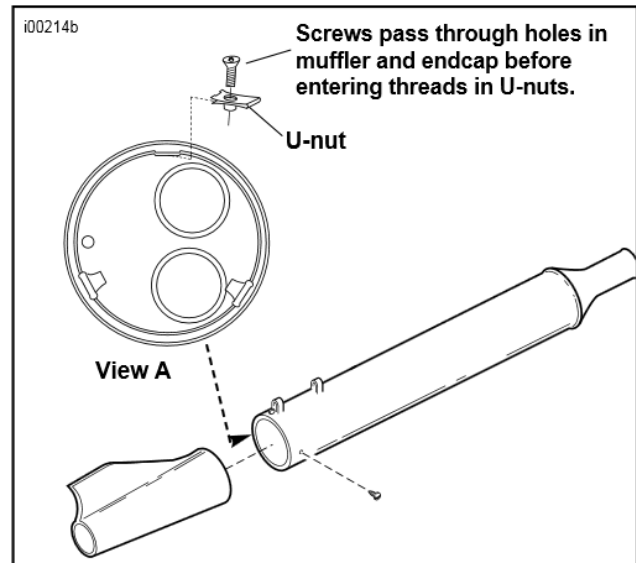

Figure 1. Installing Endcap
1. See Figure 1, View A. Slide the three U-nuts onto the bosses of the inner cup on the muffler.